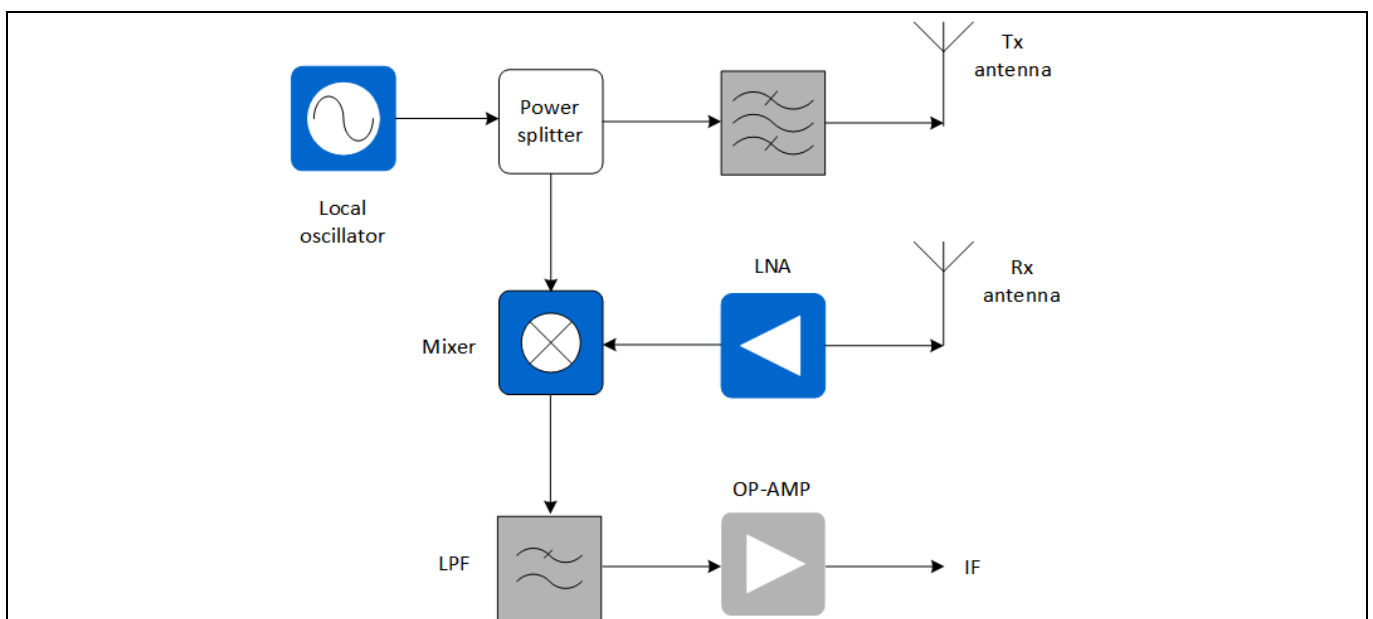

Figure 1 Simplified Doppler radar RF front-end schematic
A simplified model of continuous wave (CW) radar is shown in Figure 1. It transmits a continuous wave at one chosen frequency through time. The wave that hits an object with a relative velocity accelerates or decelerates according to the direction of the movement. If the target is approaching the radar it accelerates the wave and at the receiver, a frequency higher than the transmitted frequency is measured. In the opposite condition, the wave gets decelerated and the frequency at the receiver becomes lower than the transmitted frequency. This phenomenon is called the Doppler effect and it is why this radar model is also called “Doppler radar”. At the receiver, a signal with the Doppler frequency between the transmitted and received frequencies comes out. Applying the Doppler formula, the relative velocity of the target can be found: